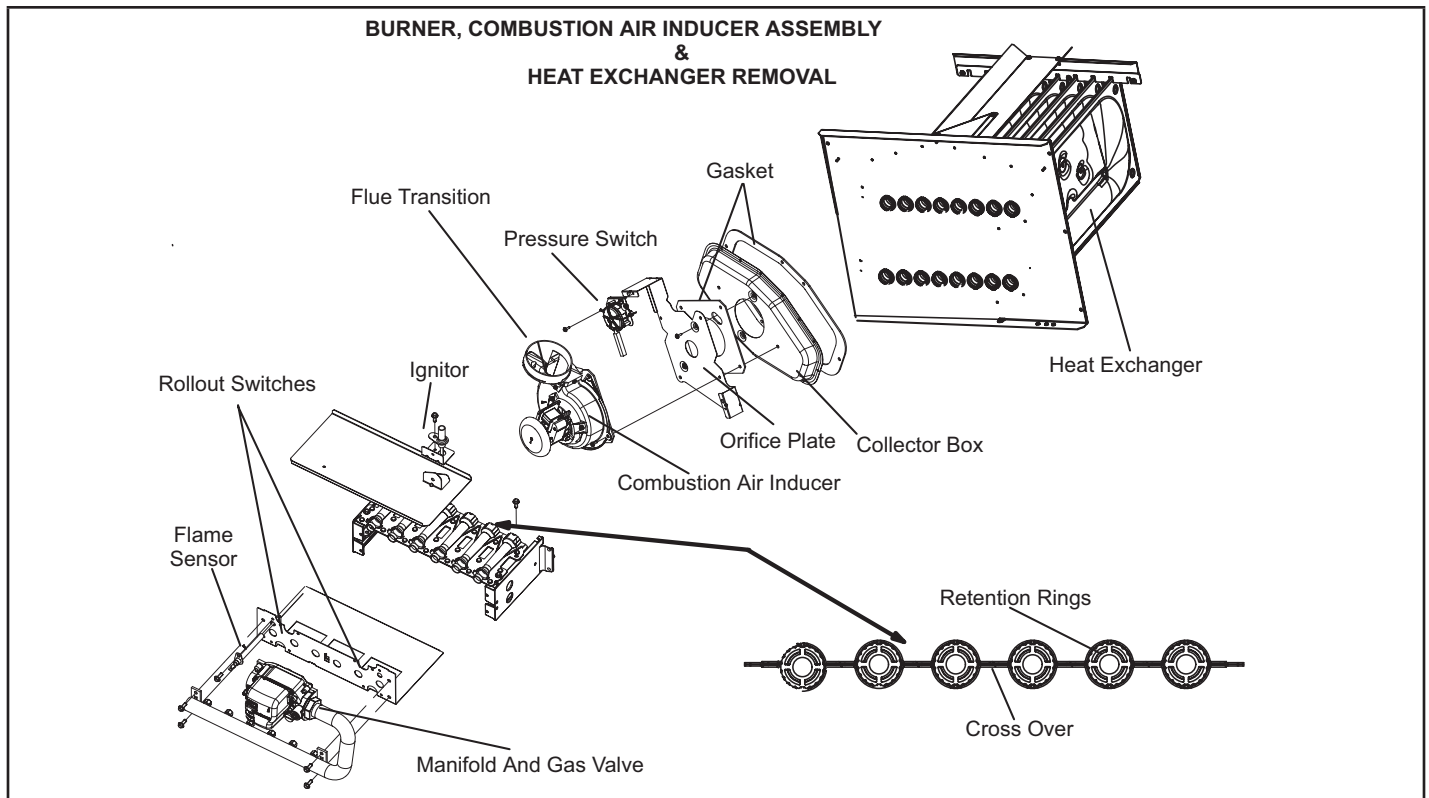

FIGURE 25
- 12 - To clean burners, run a vacuum cleaner with a soft brush attachment over the face of burners. Visually inspect inside the burners and crossovers for any blockage caused by foreign matter. Remove any blockage. FIGURE 25 shows burner detail.